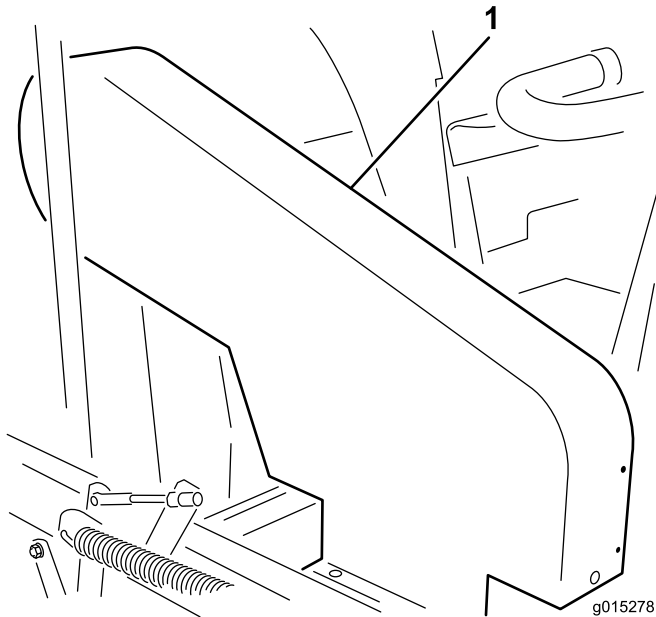

Figure 23
**Note:** It is not necessary to remove the upper belt guard (Figure 23) to check the belt tension. If for some reason the belt guard must be removed, remove the 4 bolts, washers, and nuts securing the guard to the frame. Never operate the machine without the guards in place.
Check the tension by depressing the belt at the mid span of the impeller and clutch pulleys with 4–5 lbs (18–22 N) of force. The belt should deflect .5 inches (1.27 cm). If the deflection is incorrect, proceed to Adjusting the Impeller Drive Belt (page 23). If the deflection is correct, continue normal operation (Figure 23).
Check the tension by depressing the belt at mid span of the jackshaft and clutch pulleys with 4–5 lbs (18–22 N) of force. The belt should deflect .25 inches (6.35 mm). If the deflection is incorrect, proceed to Adjusting the Jackshaft Belt (page 23). If the deflection is correct, continue normal operation (Figure 23).
1. Remove the 4 bolts, washers and nuts securing the upper shroud to the frame (Figure 23).